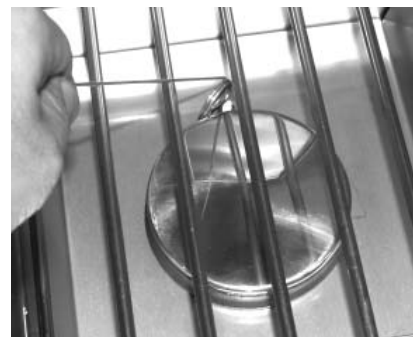

Fig. 15-2 - Manual lighting
2. Insert either a burning long-barrel butane lighter, a burning long-stem match, or a burning match held by a wire extension holder through the cooking grid opening to the burner (Fig. 15-2). Hold the flame against the edge of the burner.
4. If the burner does not light within five (5) seconds of turning the control knob, **immediately depress the knob and turn the valve to OFF**. **WAIT FIVE (5) MINUTES** before repeating steps 2 through 4 of the **MANUAL LIGHTING** instructions.